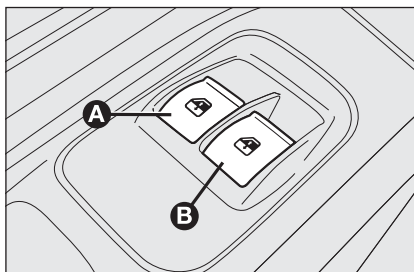

fig. 78
Buttons **fig. 78** have been provided on the driver's door panel to control the following functions with the ignition turned to **MAR**:
- ☐ Use handle **A**-fig. 78 positioned on the inside of the right-hand swing-door.